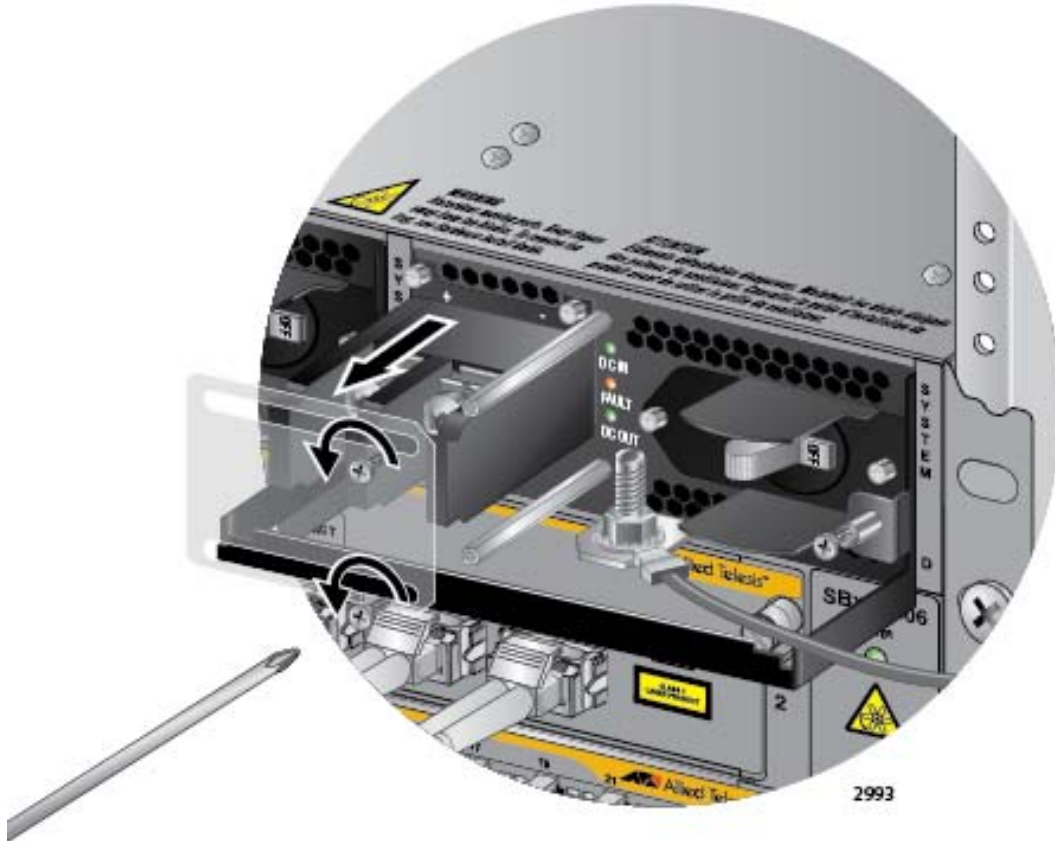

Figure 134. Removing the Plastic Cover
4. Using a #1 Phillips-head screwdriver, remove the two screws that secure the plastic cover over the positive and negative terminals and remove the plastic cover from the power supply, as shown in Figure 134. You may need to lift the locking handle slightly to access the bottom screw.